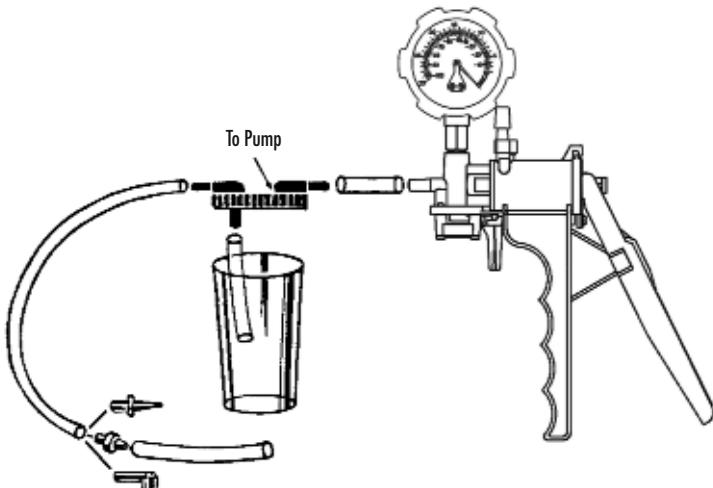

FIGURE 15: BRAKE BLEEDING KIT
3) Slip $1\frac{1}{2}$ " of tubing between the pump and the lid of reservoir jar at port marked "TO PUMP" (FIGURE 15).